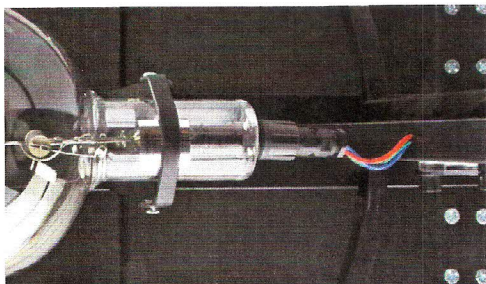

Figure 1: Socket connection
- Connect the female socket from the base to the male socket on the bulb. See Figure 1.